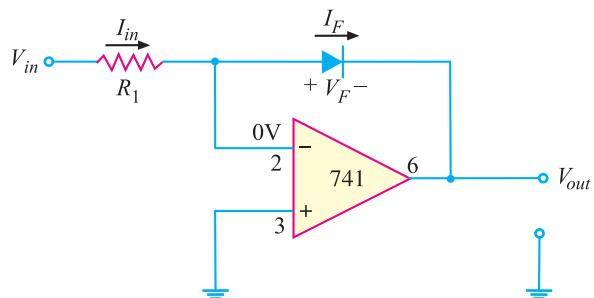

Fig. 23.20
**(vi) Logarithmic amplifier.** A logarithmic amplifier produces an output voltage that is proportional to the logarithm of the input voltage. If you place a \*\*diode in the feedback loop of an Op-Amp as shown in Fig. 23.20, you have a log amplifier. The output is limited to a maximum value of about 0.7V because the diodes logarithmic characteristic is limited to voltages below 0.7V.
Also, the input must be positive when the diode is connected in the direction shown in Fig. 23.20. To handle negative inputs, you should reverse the direction of the diode. It can be shown that the output voltage of the circuit shown is given by ;